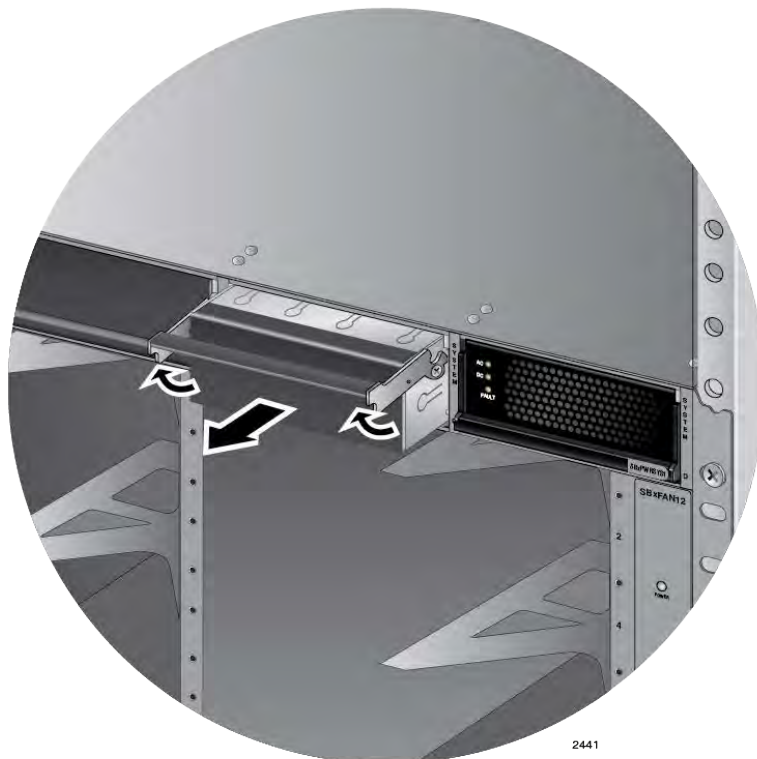

Figure 53. Removing the Blank Slot Cover from Power Supply Slot C
2. If the chassis already has a power supply in slot D, remove the blank power supply panel from slot C by lifting the blank panel handle and sliding it out of the slot, as shown in Figure 53.